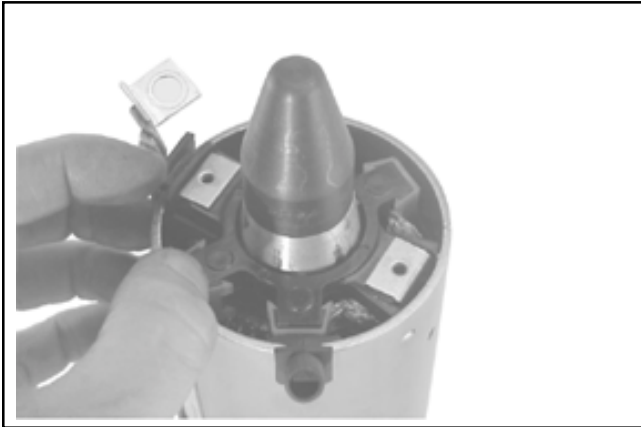

Figure 8-66. Installing Brush Holder Assembly using Tool with Extension.
- Hold the starter assembly vertically on the end housing, and carefully place the tool (with extension) and assembled original brush holder assembly onto the end of the armature shaft. Slide the brush holder assembly down into place around the commutator, install the positive (+) brush lead grommet in the cutout of the frame. See Figure 8-66.